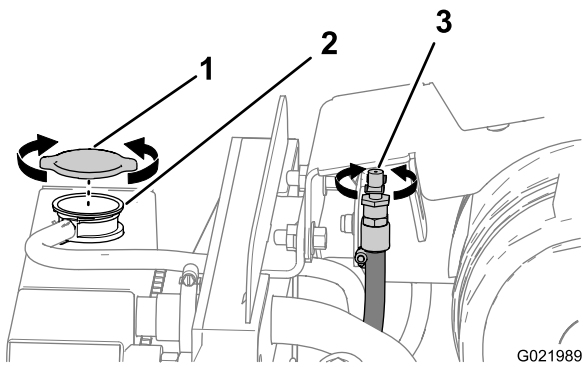
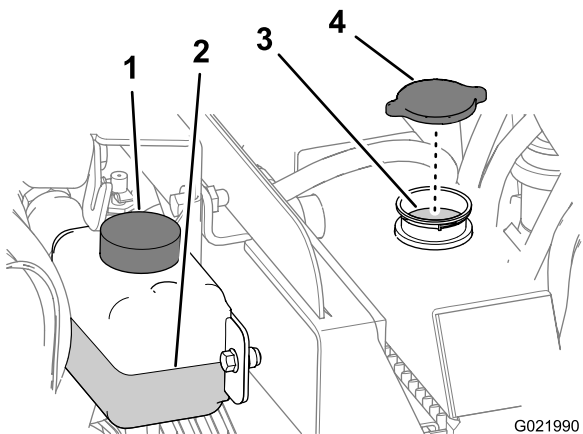

Figure 79
Figure 80
4. Open the vent valve for the engine (Figure 79).
- Remove the radiator cap from the filler neck of the radiator and check the coolant level (Figure 79 and Figure 80),
- If the coolant level is low, add coolant until the level is up to the bottom of the filler neck (Figure 80).
- Remove the radiator cap (Figure 79 and Figure 80).
- B. Open the vent valve (Figure 79).
- A. Open the vent valve (Figure 79).
1. Remove the radiator cap (Figure 79 and Figure 80).
2. Open the vent valve (Figure 79).